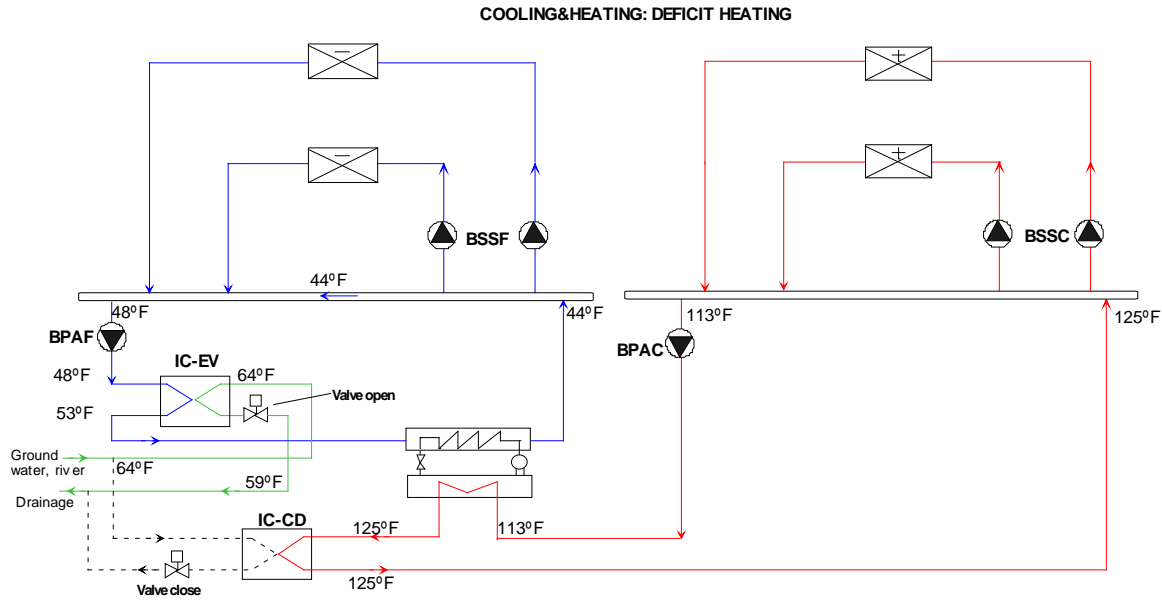

Figure 34. Loop-to-Loop Heat-Pump Heating dominated
4. **Heating dominated** (Figure 34)– Simultaneous heating and cooling loads exist, with heating being the dominant load. Additional heat from the well loop is made up to the evaporator loop via heat-exchanger IC-EV. The heat-exchanger is controlled to maintain the supply temperature setpoint of the chilled-water loop. Since the temperature leaving the evaporator may be substantially lower than in the heating-only mode, the capacity and energy efficiency of the chiller are reduced.